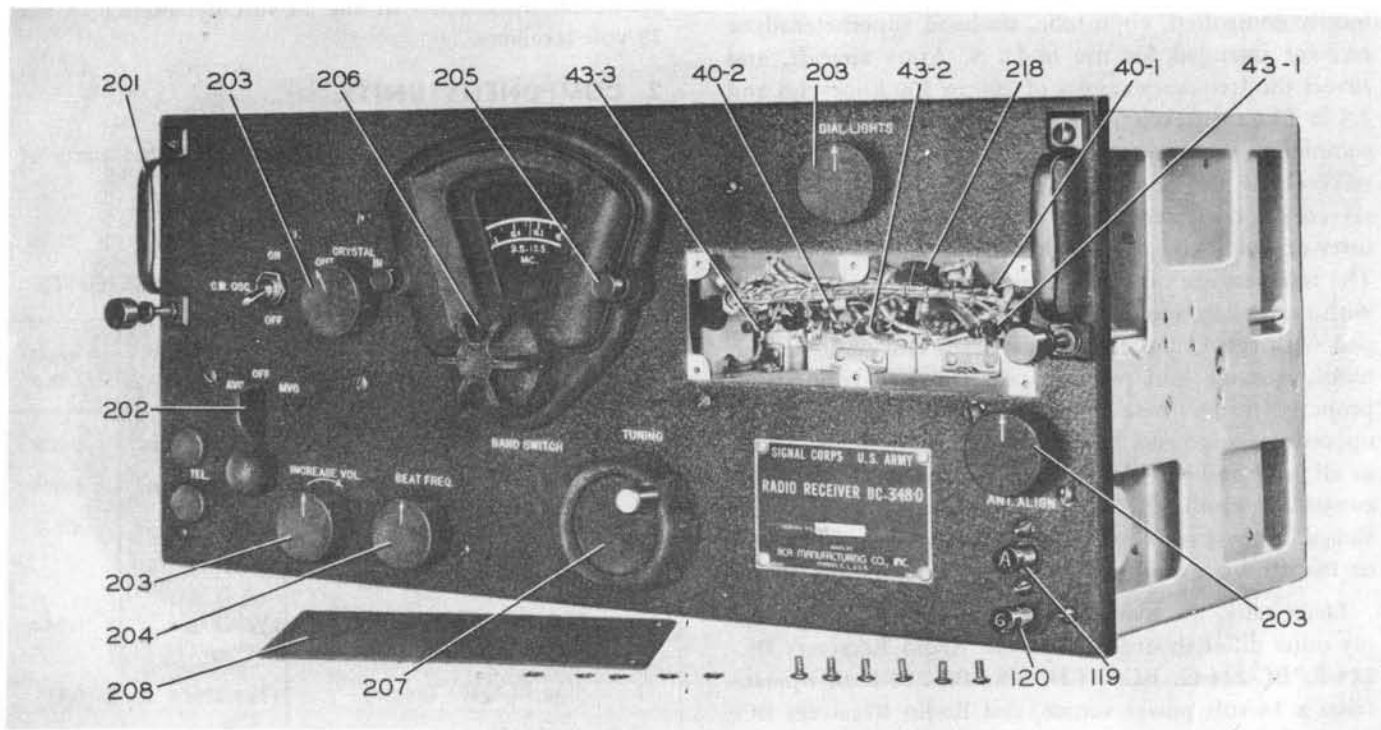

Figure 3 — Radio Receiver BC-348-(*) or BC-224-(*), Front View of Chassis with Tube Shelf Cover Removed
b. CHASSIS.—The chassis consists of an aluminum casting mounted between two end-plates of sheet aluminum which serve as runners and guides when placing the chassis in the cabinet. The end-plates are provided with cutouts to facilitate servicing. (See fig. 3.)